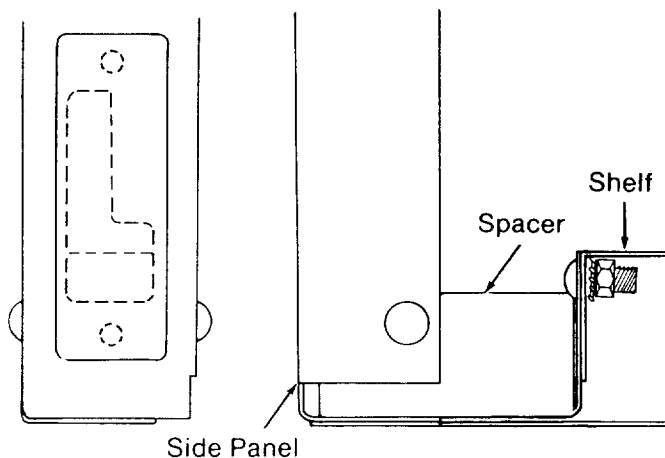

Fig. 23
25. Put a truss head bolt through the back of the *right spacer* and front edge of the *shelf*. (Figure 23)